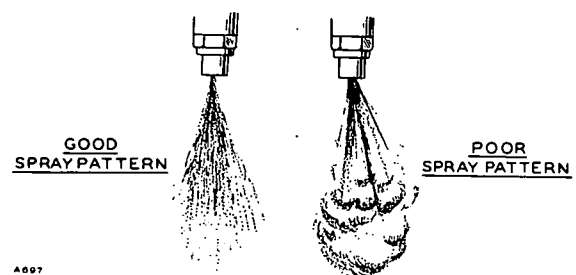

FIGURE 22. NOZZLE SPRAY PATTERN
**Inspection:** To inspect the nozzle spray pattern, remove the nozzle from the cylinder head. Crank the engine, let the nozzle spray into the air and watch the pattern. The spray should be cone shaped with a solid appearing center surrounded by cloudlike fog in which the spray is evenly atomized. See Figure 22. An apparent chattering of the nozzle is normal.